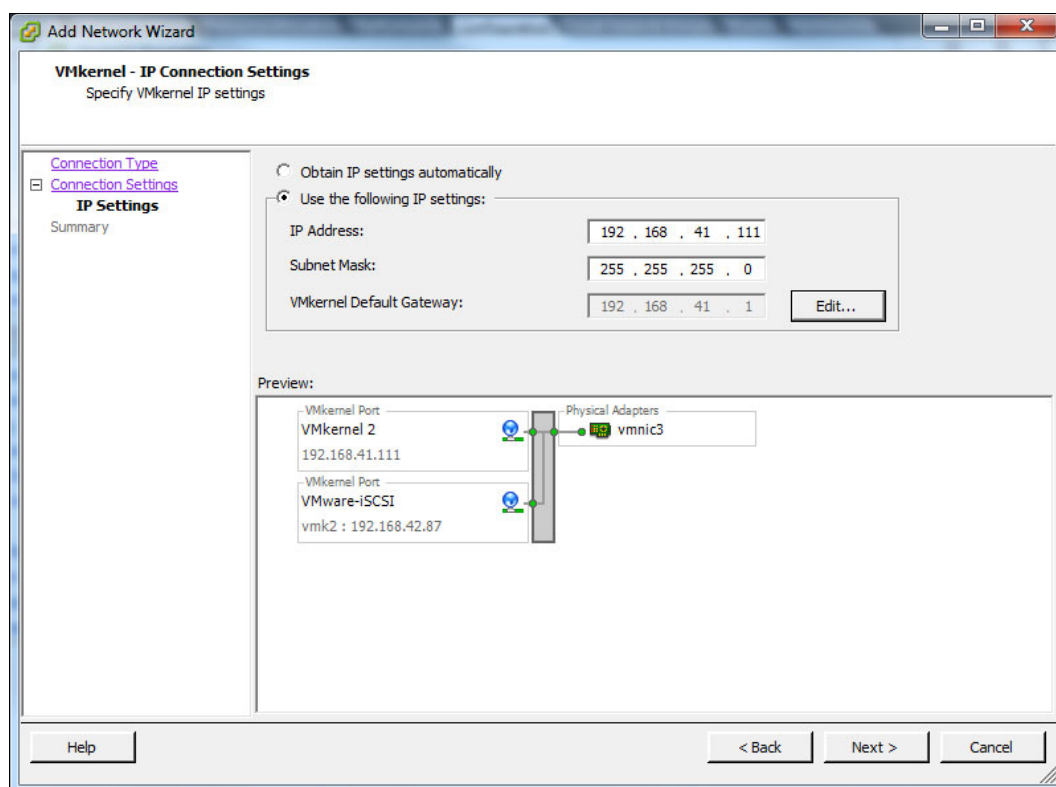

Figure 7-39 VMkernel: IP Connections Settings
5. If you are using DHCP for your network, select **Obtain IP setting automatically**. Otherwise, select **Use the following IP settings** to configure a static IP for the VMkernel interface on the VMkernel - IP configurations settings window, as shown in Figure 7-39.